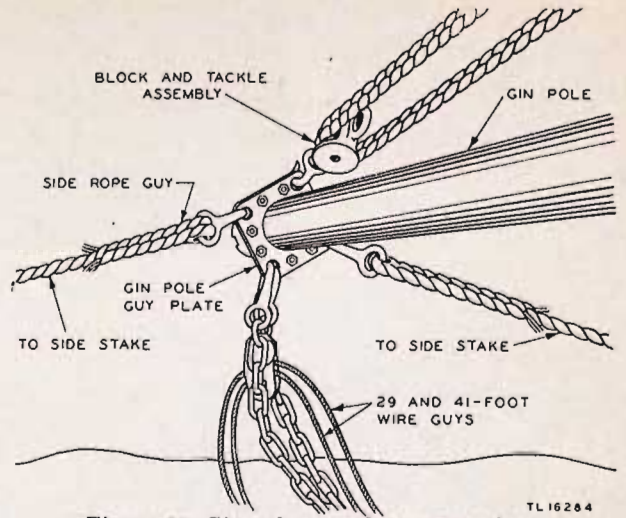

Figure 37. Gin pole guy plate connections.
o. Fasten the two back guys to the bottom hole of the guy plate and hook the block and tackle onto the top hole of the guy plate (fig. 37). Chain the other end of the block and tackle to the rear ground stake which has no guys attached. Clip the snap hooks of the two side rope guys to the side holes of the gin pole guy plate and tie the other ends of the ropes to the side